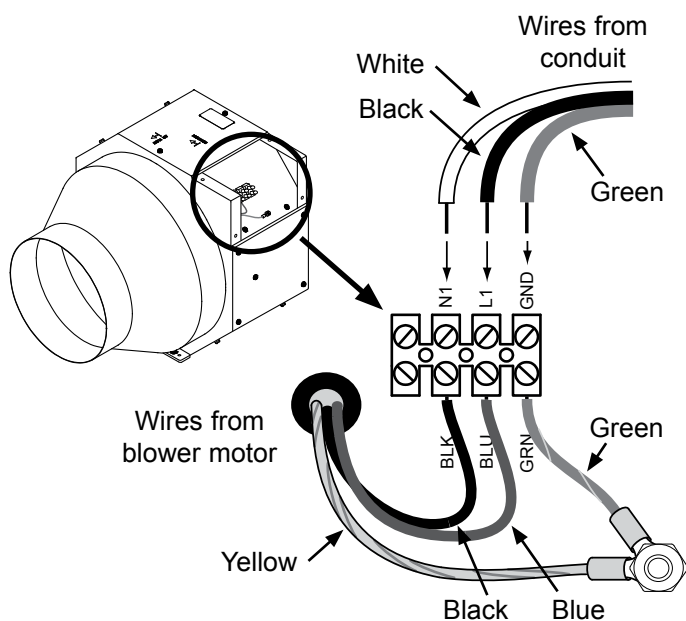

Figure 1:
7. Connect the white (neutral) wire from the conduit to the N1 blower power terminal (see Figure 1). Tighten the terminal screw firmly into place. **IMPORTANT:** The **neutral terminal** on the blower has the **BLACK** wire from the blower motor connected to it.
8. Connect the black (L1) wire from the conduit to the L1 blower power terminal (see Figure 1). Tighten the terminal screw firmly into place. **IMPORTANT:** The **L1 (hot) terminal** on the blower has the **BLUE** wire from the blower motor connected to it.
9. Connect the green (GND) wire from the conduit to the GND blower power terminal (see Figure 1). Tighten the terminal screw firmly into place.